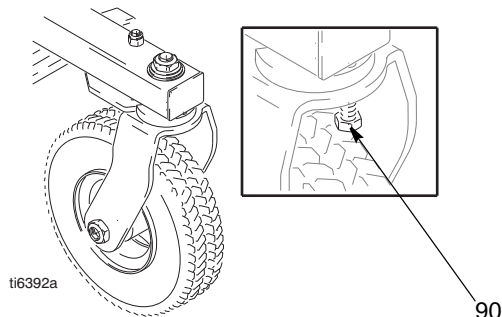

Fig. 1
7. Install screws (34) in drive housing. Torque evenly to note 3 value in Fig. 1.
9. Install front cover (52) with two screws (32).